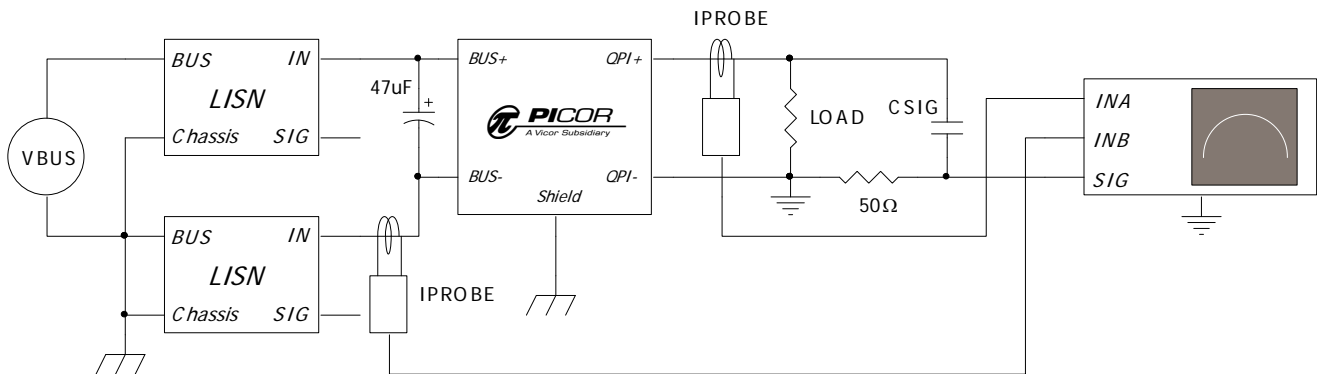

Figure 15 – Test Set-up to measure Differential Mode EMI currents in Figure 14.
**Note 5:** In Figures 15 and 16; CIN1 and CIN2, CY1 through CY8, should be the value and voltage rating recommended by the converter's manufacturer.